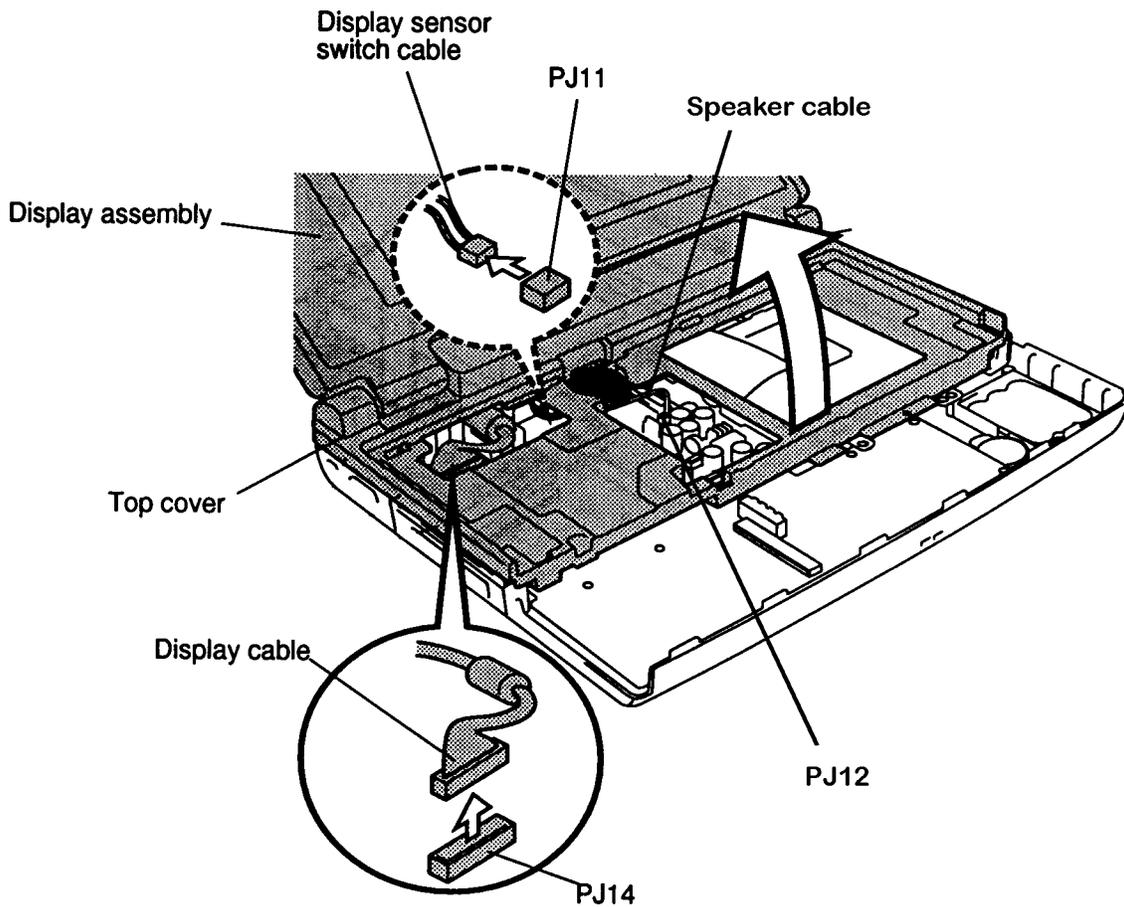

Figure 4-16 Removing the top cover & display assembly
7. Remove the tape, then disconnect the **display sensor switch cable** from **PJ11** on the system board (Figure 4-16).
8. Disconnect the **display cable** from **PJ14** on the system board (Figure 4-16).
4. Connect the **speaker cable** to **PJ12** on the system board (Figure 4-16).
5. Connect the **display cable** to **PJ14** on the system board (Figure 4-16).
6. Connect the **display sensor switch cable** to **PJ11** on the system board, then replace the glass tape over the cable (Figure 4-16).